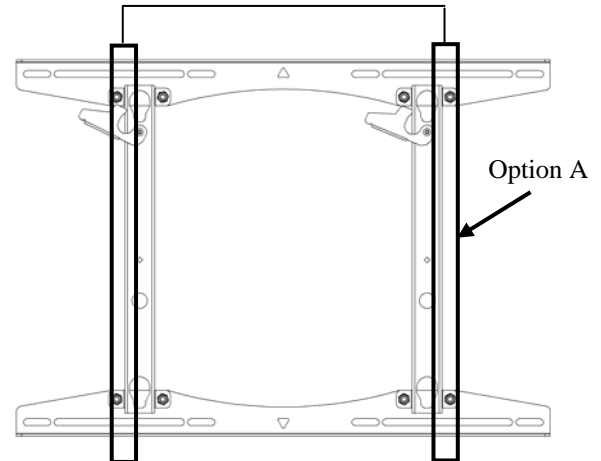

Figure 5. Mounting Holes – 16" Apart on Center (Option A)
1. Holding the PST against the wall, select the pair of mounting holes that best suits your situation (see Figures 5, 6, and 7).
- **Option A.** Install four 5/16" x 2 1/2" lag bolts and four 5/16" washers (two top and two bottom) into the mounting holes, centering the PST on dual wood studs 16" apart on center as shown in Figure 5.